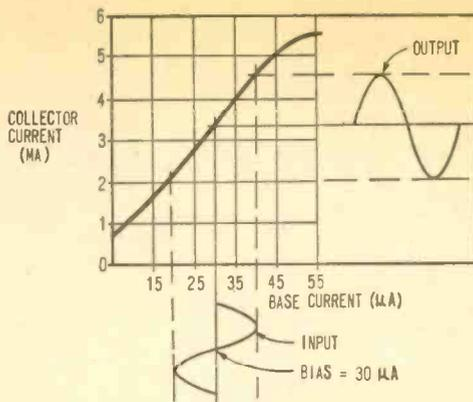

Fig. 6. Curve above reveals how input signal adds and subtracts from bias current of 30  $\mu$ a. Note how bias point falls in center of linear portion of curve.
6 volts corresponding to the collector-emitter voltage given earlier in the spec sheet. To make 30 microamperes flow through the base-emitter circuit a resistor is tied from the base to the negative side of the supply. This places the bias resistor across the full 12-volt supply. (The lower end of the resistor sees the positive terminal of the supply through the emitter.) Next, it is a matter of Ohm's Law to find the resistance value. Dividing supply voltage (12) by desired current (30  $\mu$ a) yields a resistor requirement of approximately 400 K. Now if a signal is applied to the base, it will swing bias current within a region which provides relatively undistorted amplification. This is apparent from the curve plotted in Fig. 6.